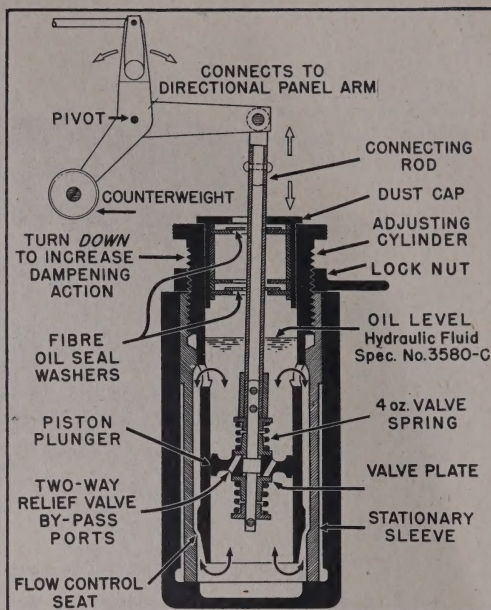

Fig. 62—Cross-section of the Dash Pot
(4) **THE DASHPOT** — The Dashpot proper, shown in Fig. 62, consists essentially of a housing, a stationary sleeve, an adjusting cylinder and a piston or plunger so constructed that it can by-pass oil in either direction whenever the force upon the plunger exceeds the tension of the valve openings.